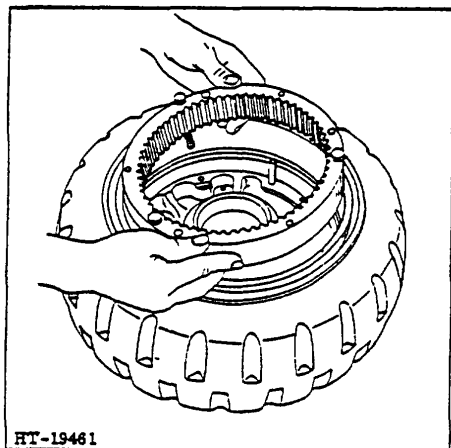
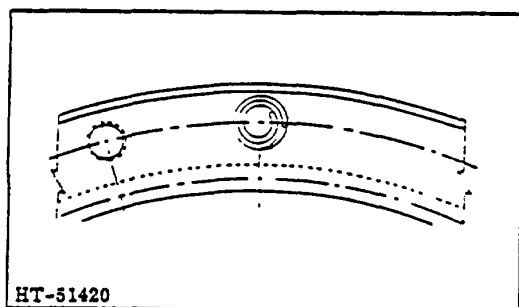

Figure 7. Bull Gear Removed
Figure 8. Spiral Pin Installation
- (1) Remove the three capscrews which bolt the bull gear to the inner side of the wheel.
- (2) Turn the wheel over and using standard, hardened capscrews with three inches of thread. Insert in the holes provided in the bull gear. (Figure 7.)
- (3) Tighten the capscrews evenly until the bull gear is removed from the wheel bore.
- (4) Inspect the bull gear for any broken or worn teeth or cracks in the ring. Replace if damaged.
- (5) To prevent any damage to the bull gear when installing the spiral pins, the edge of the outer coil should lie on the bolt circle diameter as shown in Figure 8.